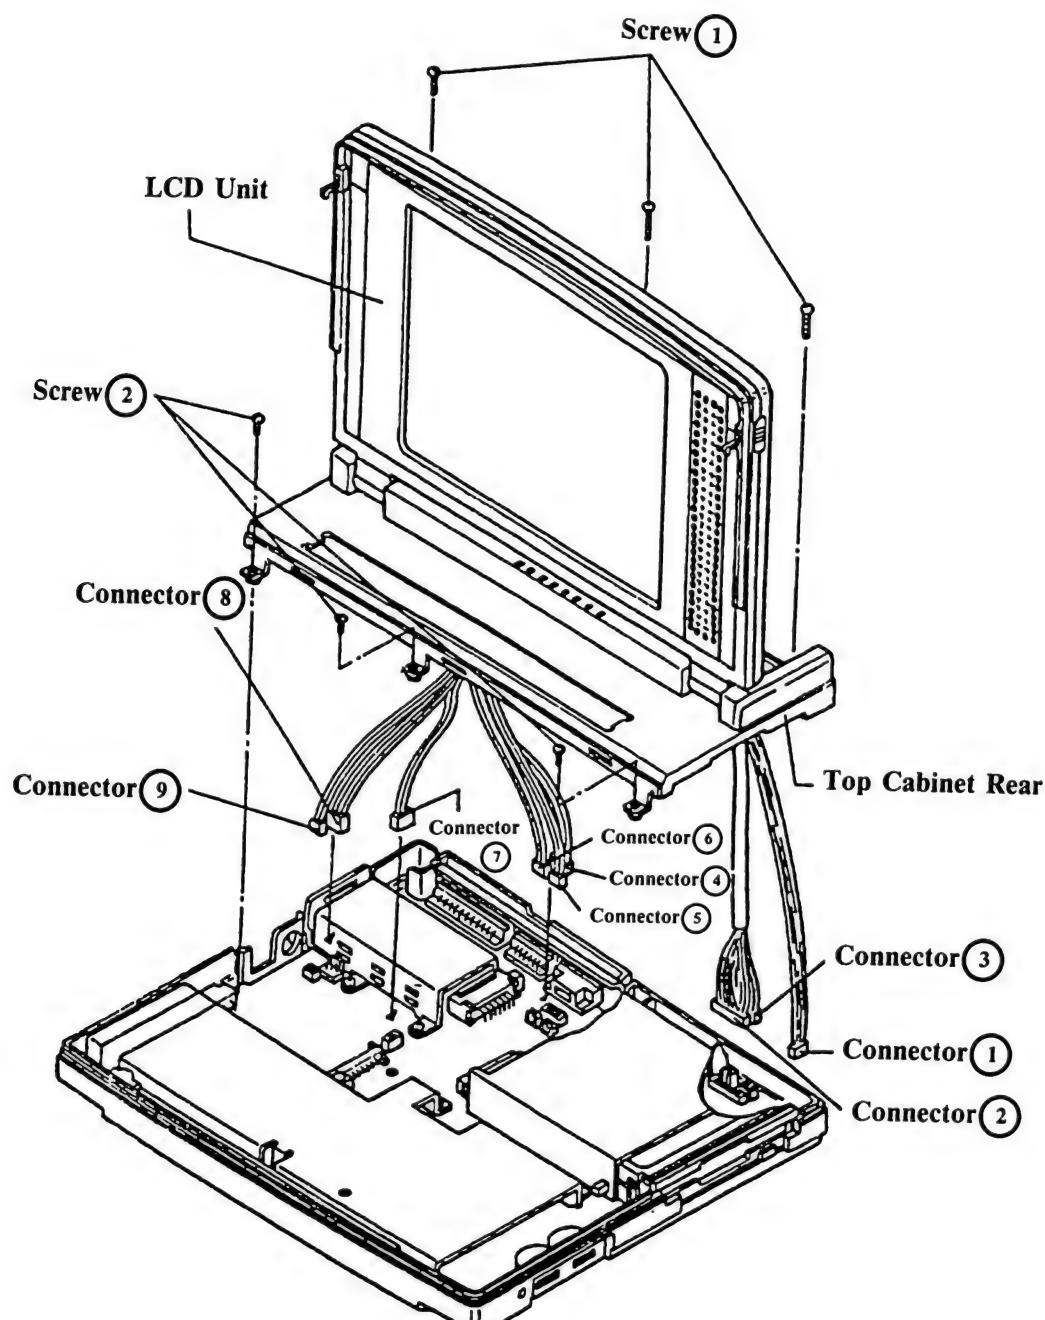

Figure 3.4
Remove the six screws ① and ② which hold Top Cabinet Rear in place. (Figure 3.4)